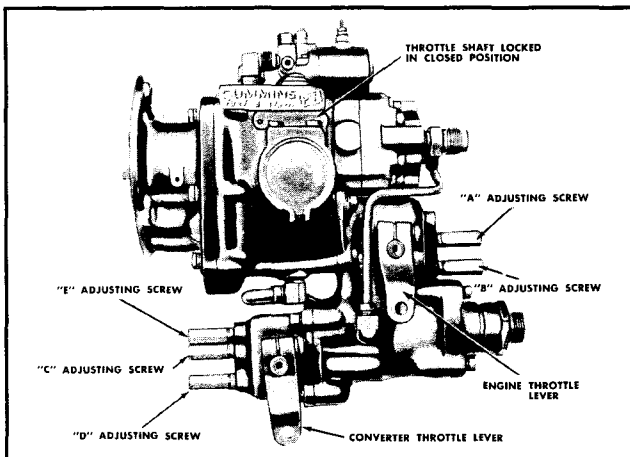

Fig. 4-32. PT Pump with torque converter governor
2. Hold the converter lever in clockwise position and turn in converter governor idle screw "C" (Fig. 4-32) until you are sure the spring is compressed. Turn adjusting screw out; then, back in slowly to check this adjustment.
3. Start the engine and rotate the engine governor lever in a clockwise direction; then, set engine idle speed by adjusting the idle screw "A" to get 515 to 700 rpm. See Fig. 4-32.
4. Set approximate engine maximum no-load speed by adjusting maximum speed screw "B" while holding engine governor lever against its stop; turn lever in counterclockwise direction. See Fig. 4-32.
a. Adjust screw "C" to get rated no-load tailshaft speed of converter. Fig. 4-32.
b. Adjust screw "D" until converter governor lever is locked in place. Fig. 4-32.
a. Adjust screw "C" to get no-load tailshaft speed of converter. Fig. 4-32.
b. Adjust screw "D" until you reach maximum converter speed desired. Fig. 4-32.
2. Loosen screw "C", Fig. 4-32, and back out approximately  $\frac{3}{4}$  inch.